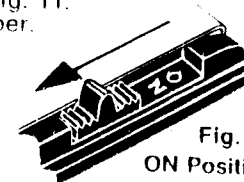

Fig. 11
9. Push chart drive switch to "ON" position exposing the word "ON." Make sure switch clicks into detent position which locks it into place. See fig. 11.